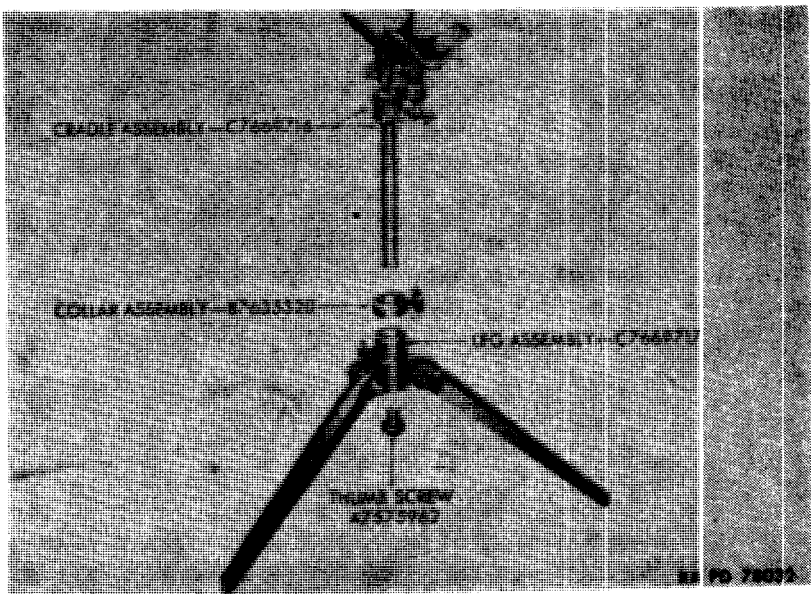

Figure 25-Tripod M15-Partially Disassembled
a. General. Tripod M15 comprises three subassemblies: cradle assembly, collar assembly, and leg assembly. To break the tripod down into these subassemblies: Remove thumbscrew A7575962. Loosen the clamping thumbscrew in the leg assembly, and remove the cradle assembly from the leg assembly. Loosen the thumbscrew in the collar assembly and slide that assembly off the cradle assembly shaft (fig. 25).